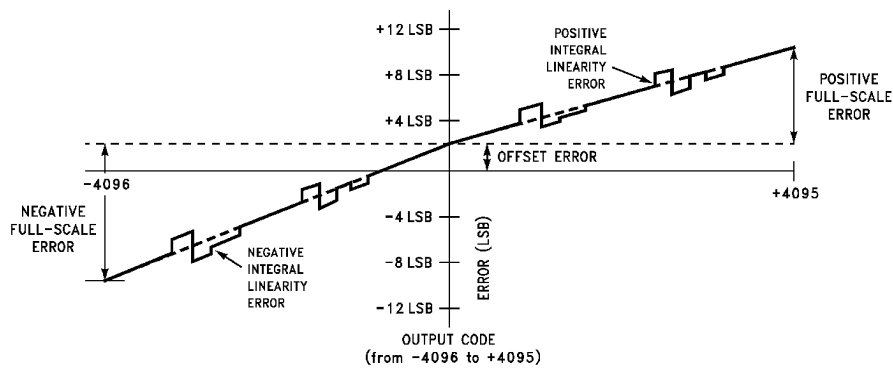

FIGURE 2. Simplified Error Curve vs Output Code without Auto-Calibration or Auto-Zero Cycles
**Note 12:** Positive integral linearity error is defined as the deviation of the analog value, expressed in LSBs, from the straight line that passes through positive full-scale and zero. For negative integral linearity error, the straight line passes through negative full-scale and zero (see Figures 2, 3).